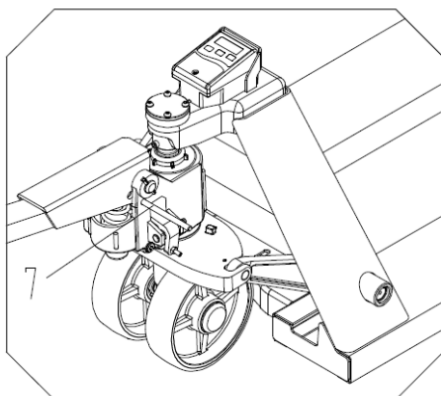

Fig. 3
6. Raise the handle to a horizontal position, pull out the pin 7 and keep it appropriately to be used for handle replacement next time. *(Fig. 3)*